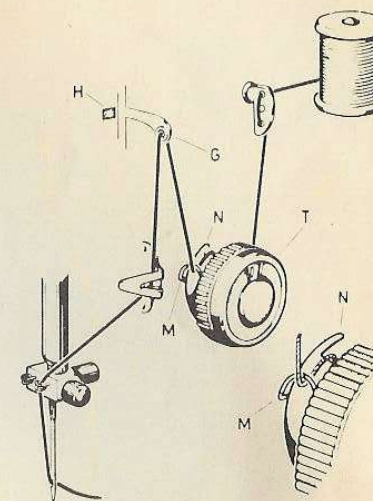

Fig. 5
Pass thread through points indicated in Fig. 5.
- Bring needle to its highest position and thread take-up lever « E » in correspondence with mark line on front plate (Fig. 5);